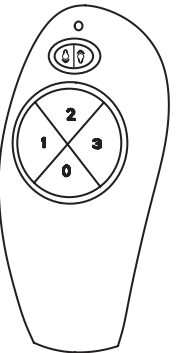

Figure 5
Press "3" on the remote control (refer to Figure 5). The fan should start and reach it's maximum speed. If the fan does not start or is turning too slow, turn off the power at the wall switch. Pull the fan's pull chain to change speed. Reapply power and try HIGH.
• ON and OFF: Press and quickly release the light button on the hand-held remote to turn the light OFF and ON. See Figure 5 for remote button locations.